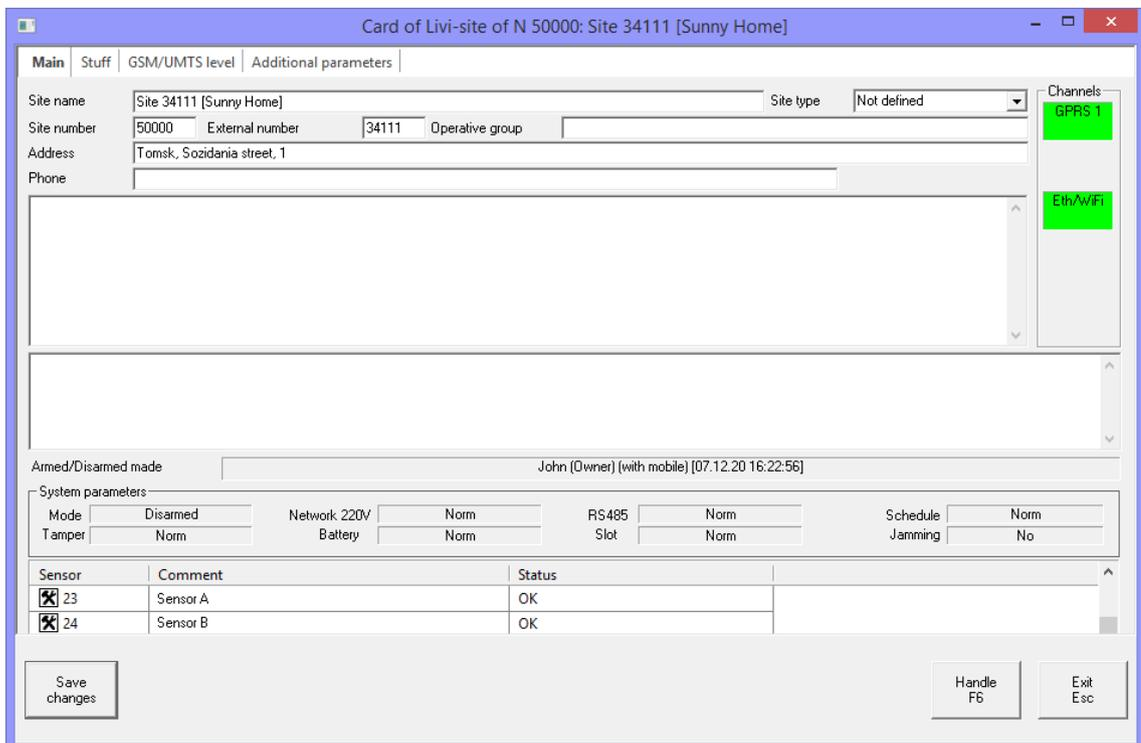

Figure 8.12 – Site card
2. Site card for the Livicom Smart Home (see figure 8.12).